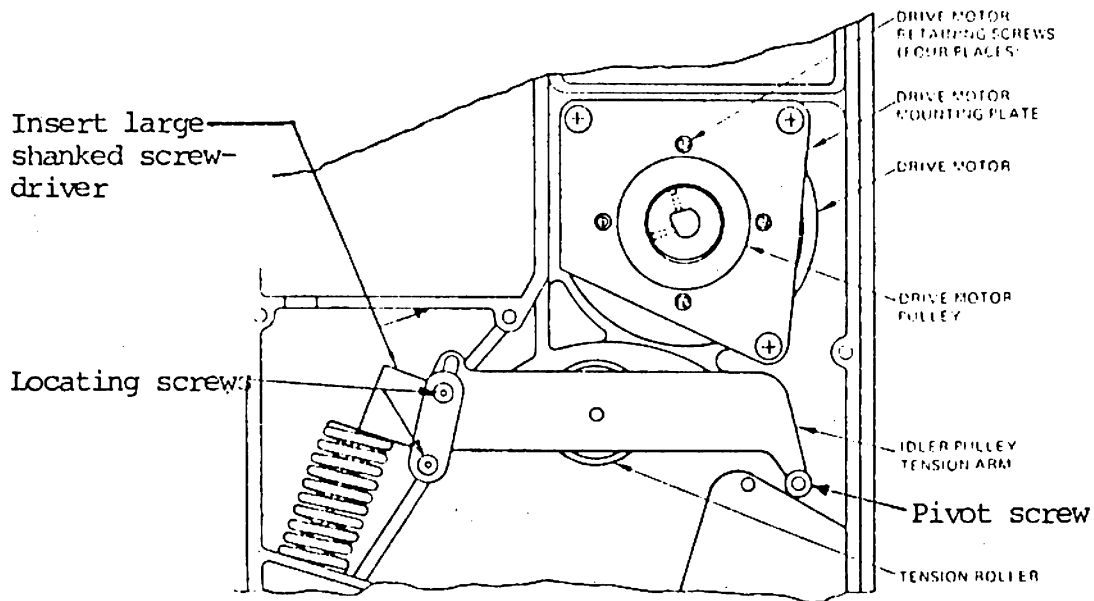

FIGURE 2
8. Position the spring on the idler pulley tension arm as shown in Figure 2.